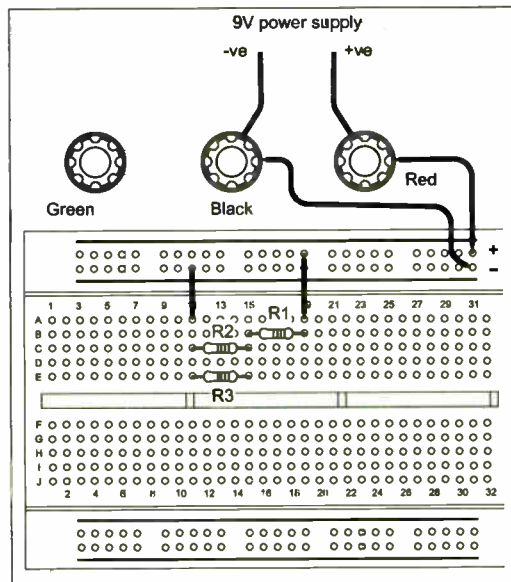

Fig.2.14. Wiring diagram for the series-parallel circuit investigation.
**Wiring diagram:** See Fig.2.14
Connect the circuit as shown in Fig.2.14. Before switching on the D.C. supply or connecting the battery, check that the multimeter is set to the D.C. 200V range. Switch on (or connect the battery), switch the multimeter on and measure the supply voltage (this should be close to 9V) as well as the voltage dropped across each of the resistors, R1, R2 and R3. Record your results in Table 2.2.